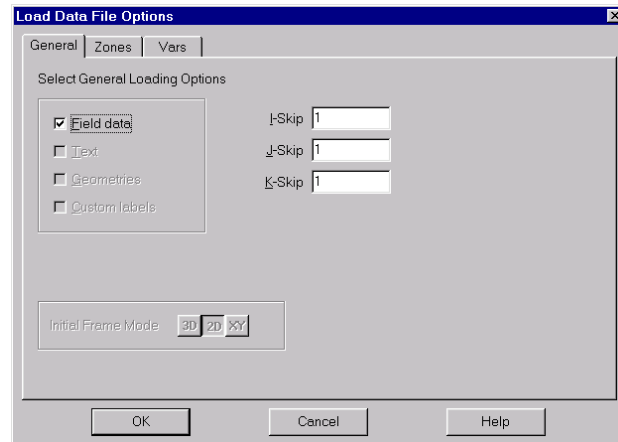

Figure 6-2. The General page of the Load Data File Options dialog.
6.1.1.2. General Options when Loading Data Files. On the General page (Figure 6-2), you have the option to load a subset of record types, to load only portions of the data, and to specify in which frame mode the data will initially be displayed.